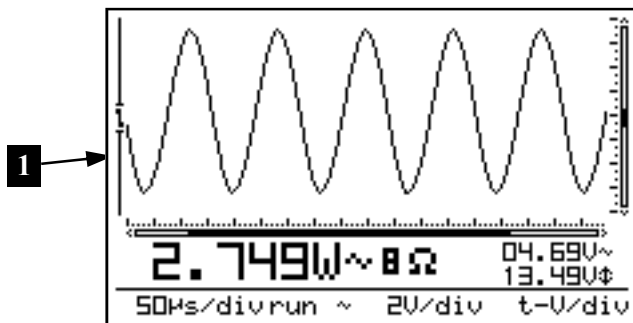

Fig 42
- Changing the timebase or sensitivity switches the autorange mode immediately off. **(Fig 42)**